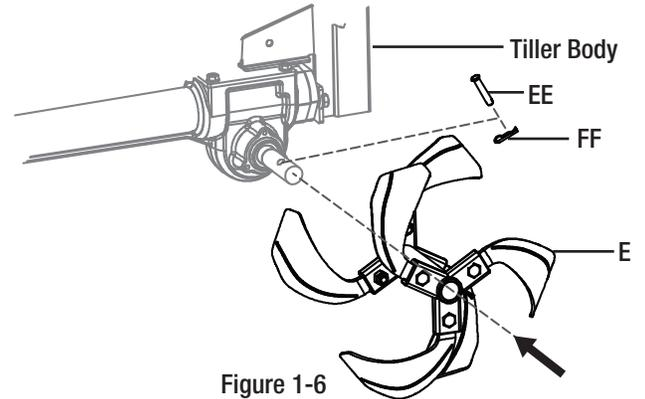

Figure 1-6
- Insert tines (E) on each side through the tine axle located on the rear of the tiller. Align pre-drilled holes and insert clevis pin (EE) then insert cotter pin (FF) to secure in place. See Figure 1-6.